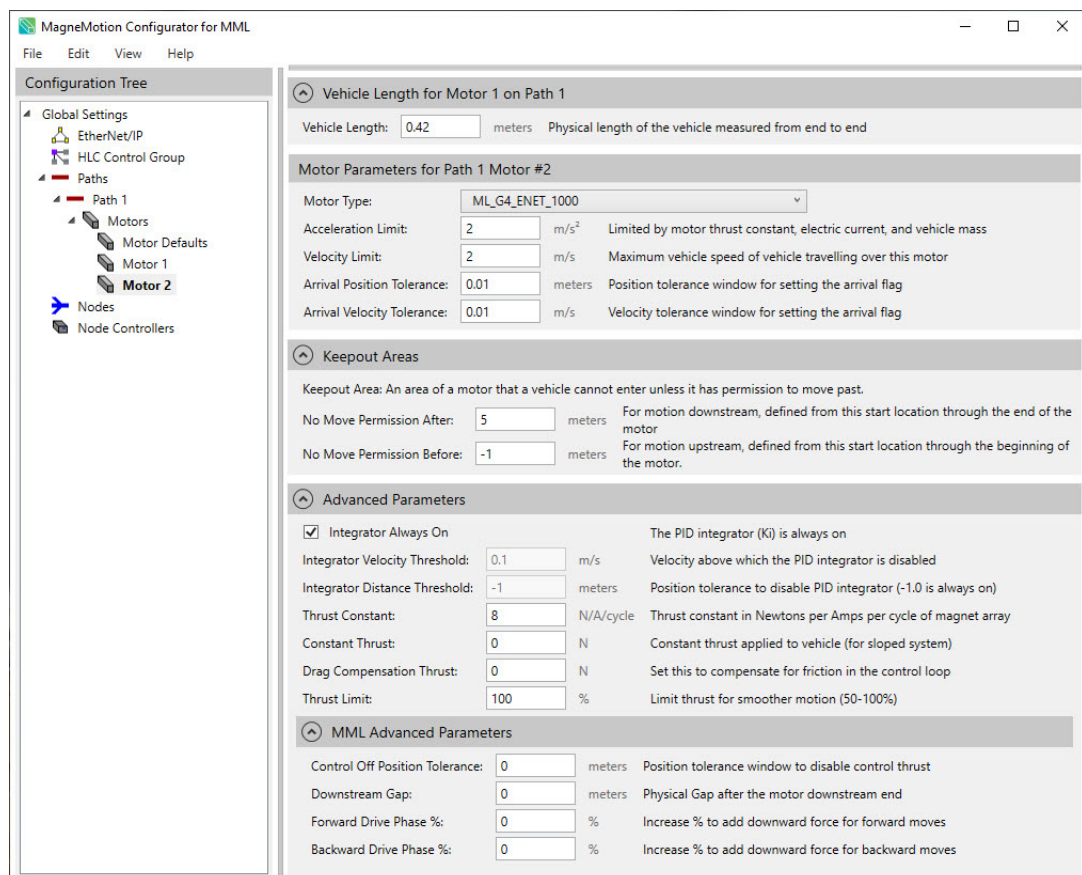

Figure 4-1: Example Motor Details Page with Advanced Parameters
*The **Motor Details** page that is displayed in the Configuration Settings Pane is updated with the advanced parameters, see Figure 4-1.*